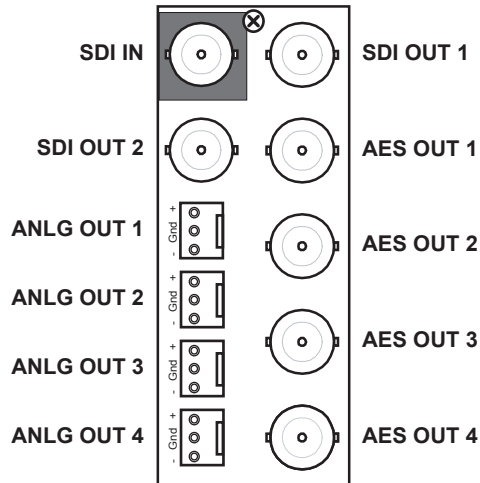

Figure 5.12 Cable Connections for the SFS-8622-AOC — Four Analog Outputs, Four AES Outputs
**Figure 5.12** illustrates the cabling designations for one SDI input, two SDI outputs, four AES-3id 75ohm unbalanced outputs, and four analog balanced outputs. The **AES I/O Config** is set to **0 in, 4 out**.